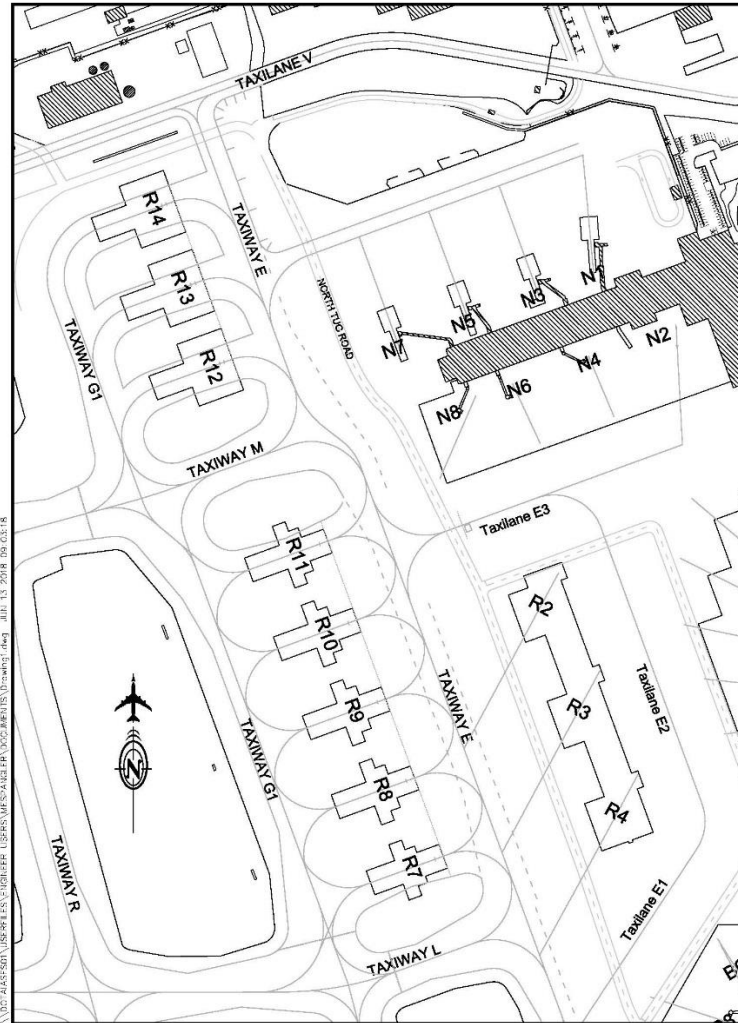

Figure 1
- Basic ground time in these spots is four (4) hrs. Any extensions require ANC Ops approval.
4.3 North Terminal Parking (Figure 1)
4.4 Remote Parking Positions (Figure 1)